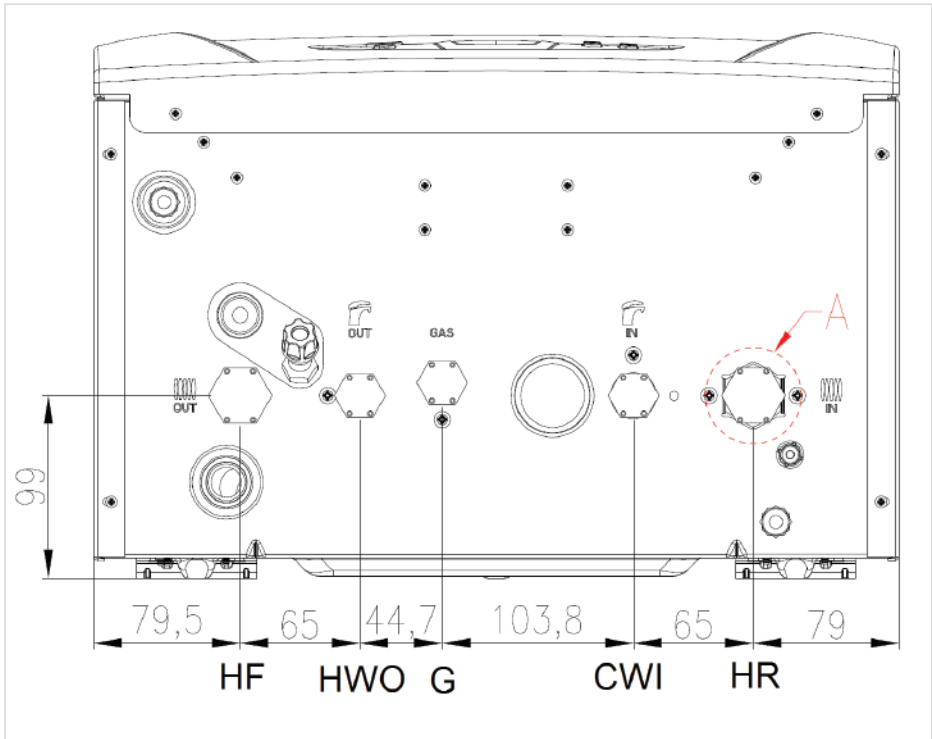

Figure 15. Water connections
- ⚠** The fitting placed under pump (Figure 15 – see Detail A) must be tightened with torque of maximum 18 Nm in case of rubber gasket use. This value is 30 Nm in case of cylinder head gasket use.